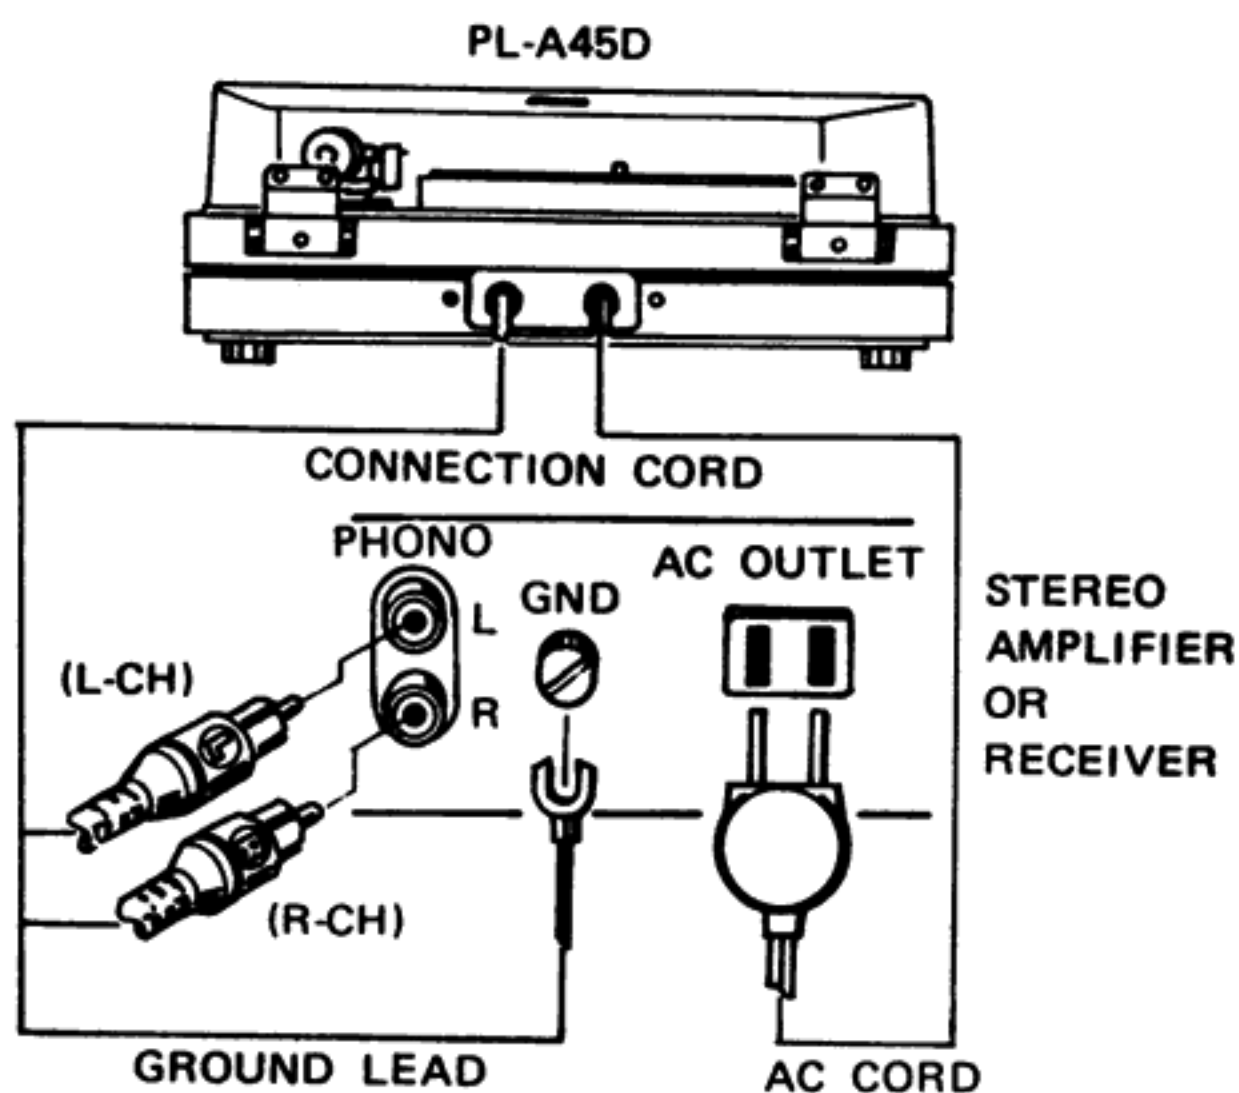

Fig. 9
- The connection cord of PL-A45D has three leads at its end: the first is marked "L" (left channel), the second, "R" (right channel), and the third is colored black. Connect the "L" and "R" leads to the respective PHONO MAG input jacks of your stereo amplifier (Fig. 9).
- The black lead is for ground connection and has a split lug on its end. Connect the lug to the ground terminal on your amplifier (Fig. 9).